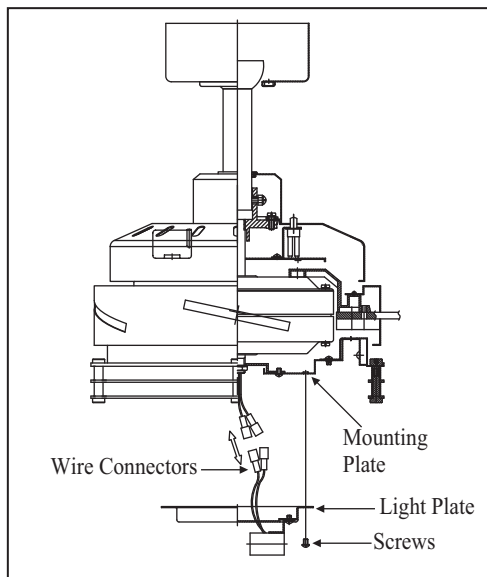

Figure 18
3. Place the key holes on the light plate over the 2 screws previously loosened, turn the light plate until it locks in place at the narrow section of the key holes. Secure by tightening the 2 screws previously loosened and the one previously removed. (Fig. 18)